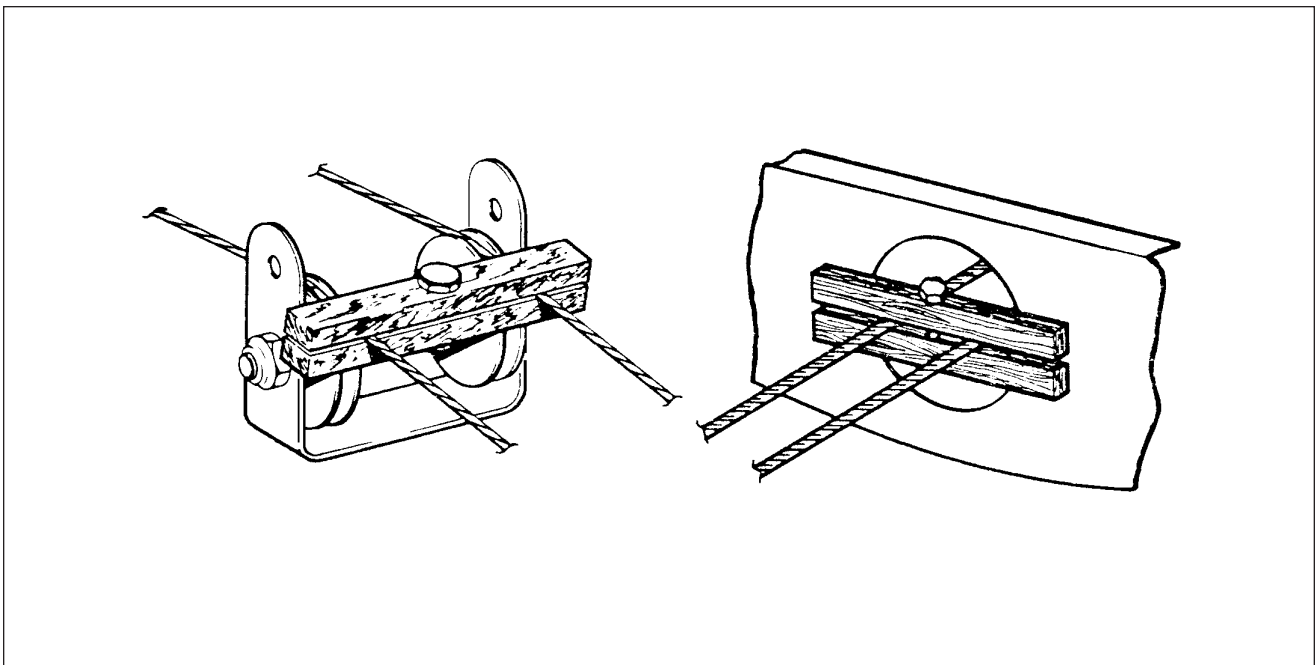

Figure 55-2. Blocking Control Cables
4. Install cable blocks, as illustrated in Figure 55-2, on the stabilator trim control cable at the first set of pulleys forward of the cable turnbuckles to prevent the forward cable from unwrapping.